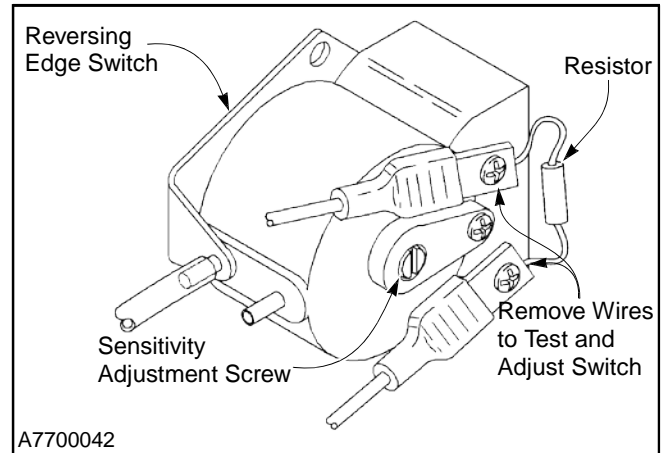

Figure 37
1. The reversing edge switch is a normally open contact. The PVC hose is on the lower air input post. To adjust the switch, first remove the wires and resistor from the contact terminals and attach an ohmmeter across the two terminals. (See Figure 37.)
2. Turn the adjustment screw, located on the face of the switch, clockwise or counterclockwise until continuity is achieved. Then turn the screw two full turns counterclockwise. The ohmmeter should no longer show continuity. Turning the screw counterclockwise decreases sensitivity. Turning the screw clockwise increases sensitivity. (See Figure 37.)